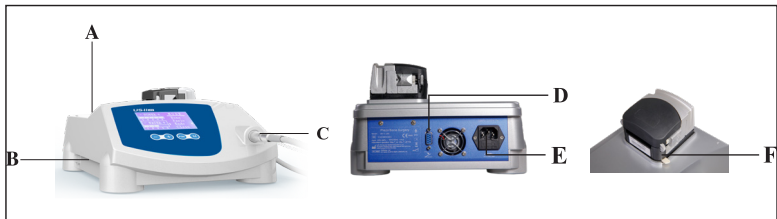
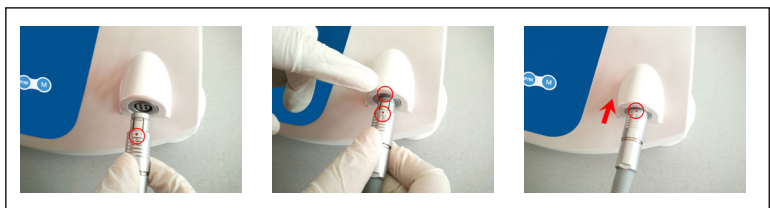

Fig.6
Fig.7
**Danger:** Do not install the device on or in the vicinity of sources of heat. Install it such a way that there is an adequate circulation of air around it. Leave sufficient free space around it, in particular with reference to the fan on the rear. (Fig.6)
- 6.3.2 Insert the rod for supporting the bag into the holes provided for it (Fig.6—
6.3.3 Connect the footswitch to the casting of the device by inserting the plug into the footswitch socket (Fig.6—Ref.D);
6.3.4 Plug the power cable into the connector on the casting of the device (Fig.6—Ref.E) and then into the power outlet;
6.3.5 Insert the handpiece support into the two holes provided for it (Fig.6—Ref. C);
6.3.11 press the button “on/off” (Fig.6—Ref.B), then can use the device.
7.5.4 Make sure that the US-II (LED) handpiece is correctly connected to the handpiece connector (Fig.6-Ref.C, Fig.7);